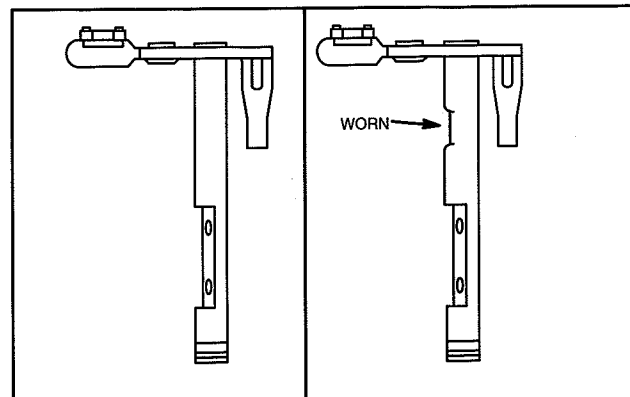

Fig. 87 – Check Throttle And Choke Shaft
2. Inspect throttle shaft and choke shaft for wear. Replace if worn, Fig. 87.